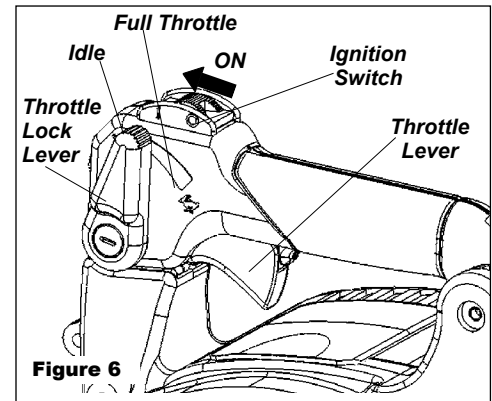

Figure 5
3. **Cold Engine Only.** Choke the engine by moving the choke lever up (choke is closed). See Figure 5.